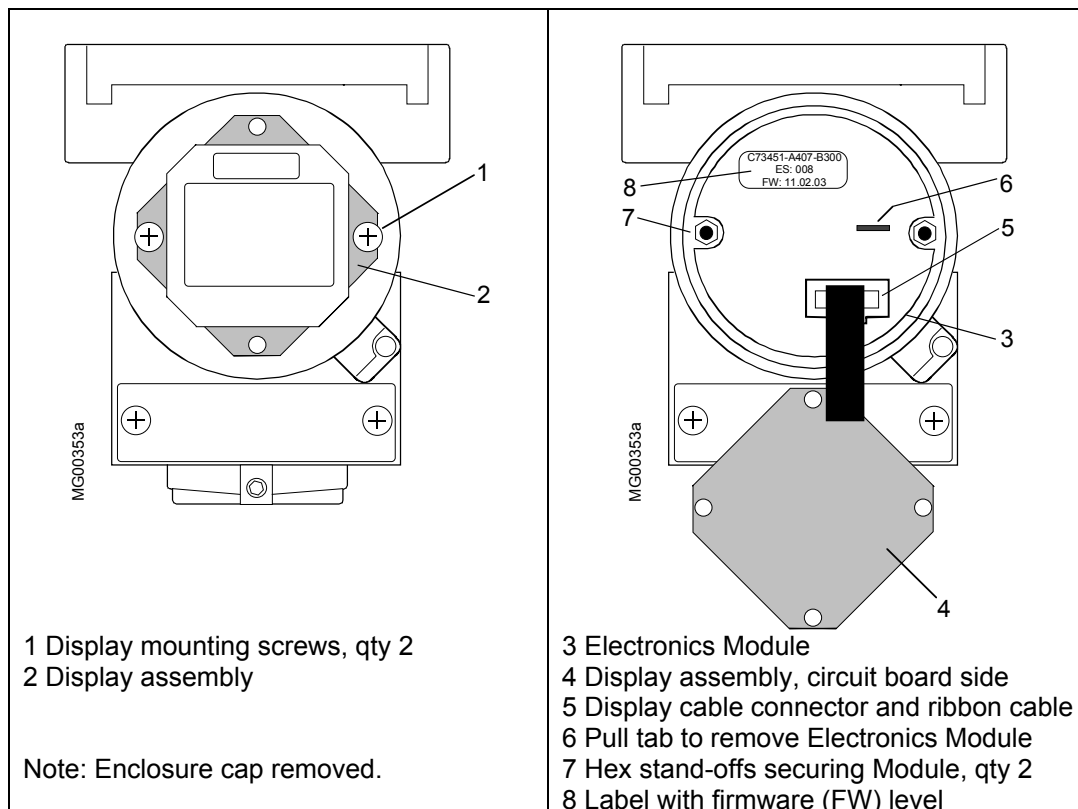
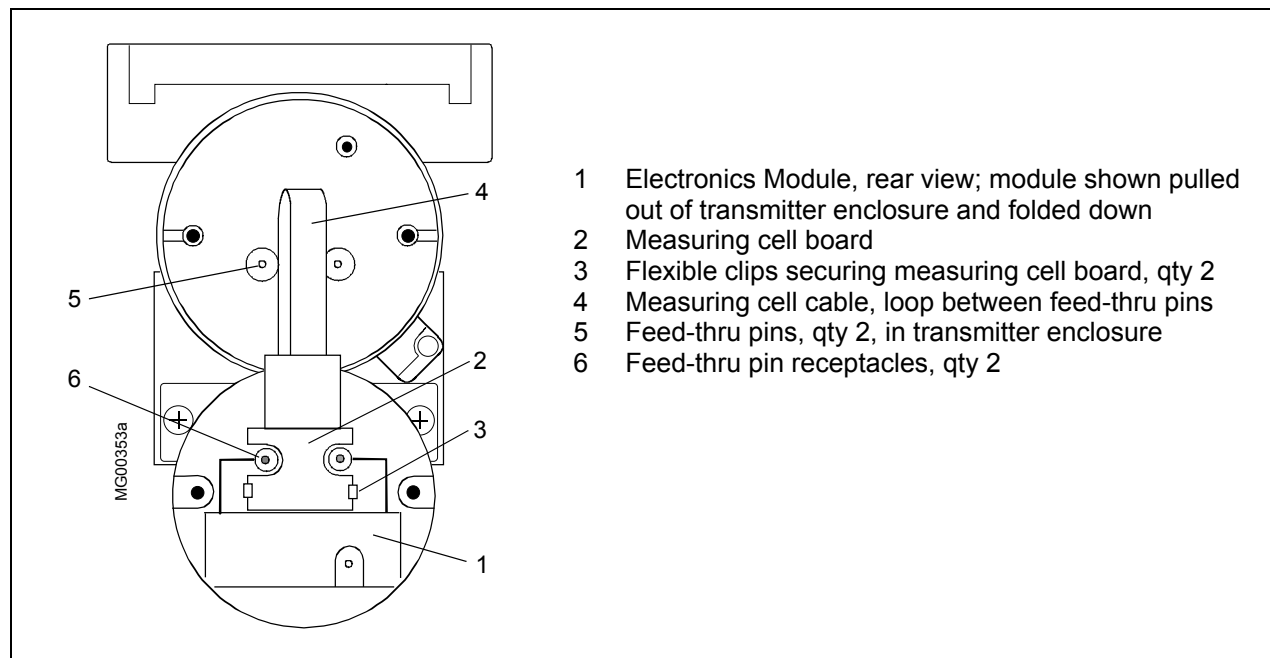

FIGURE 7-2 Display Assembly Installed and Partially Removed
FIGURE 7-3 Electronics Module Removal and Installation
4. While holding the display assembly, loosen and remove the two Phillips-head screws securing the display circuit board to two hex stand-offs. See Figure 7.2.
3. Refer to Figure 7-2 and remove the two hex standoffs (7) using a 3/32" (7 mm) hex wrench. Grasp the pull tab (6) and withdraw the electronics module (3) from the enclosure. As shown in Figure 7-3, the measuring cell cable (4) is several inches long. Fold the module down so the back of the assembly is visible, as shown.